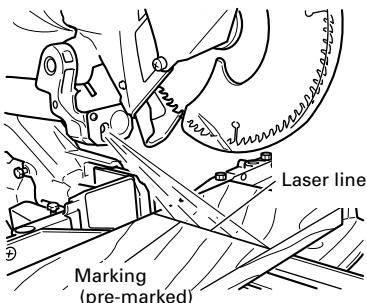

Fig. 20
- (3) After adjusting the position of the laser line, draw a right-angle ink line on the workpiece and align the ink line with the laser line. When aligning the ink line, slide the workpiece little by little and secure it by vise at a position where the laser line overlaps with the ink line. Work on the grooving again and check the position of the laser line. If you wish to change the laser line's position, make adjustments again following the steps from (1) to (3).
**NOTE:** Check and make sure on a periodic basis if the position of the laser line is in order. As regards the checking method, draw a right-angle ink line on the workpiece with the height of about 25/32" (20 mm) and the width of 5-29/32"(150 mm), and check that the laser line is in line with the ink line [The deviation between the ink line and the laser line should be less than the ink line width (0.5 mm)]. (Fig. 20)